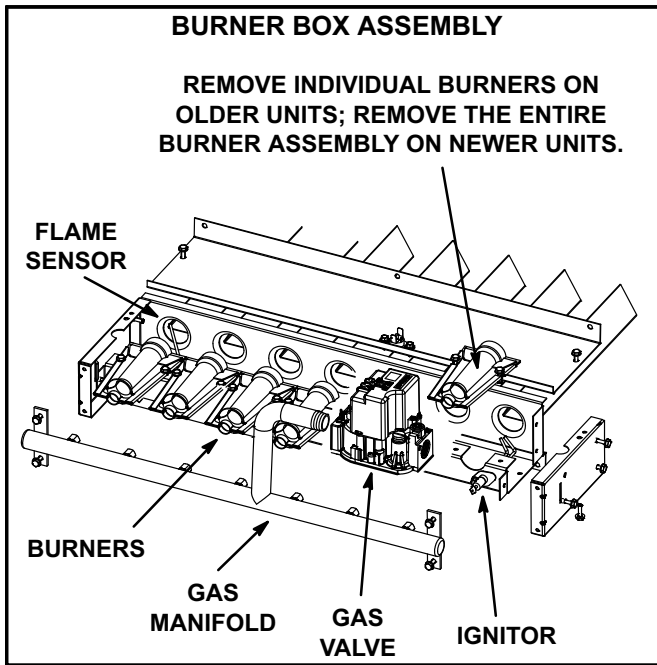

FIGURE 21
- Remove screws securing burners to burner support and lift the individual burners or the entire burner assembly from the orifices. See figure 21. Clean as necessary.